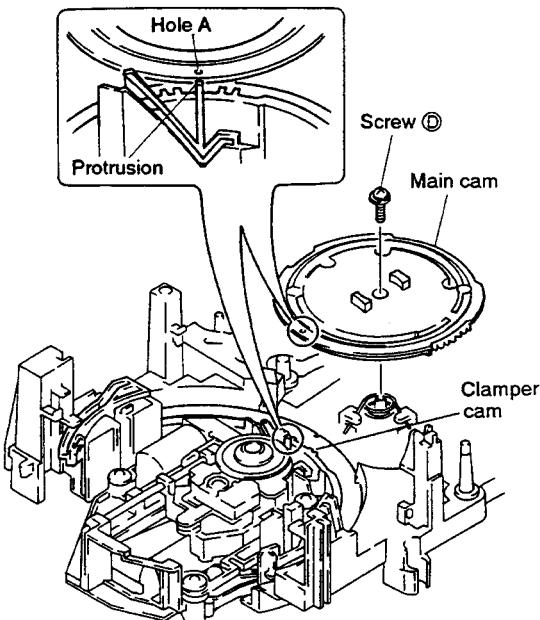

Fig. 2-3
(1) As shown in Fig. 2-3, attach the main cam, trying to adjust the main cam hole A to the clamper cam protrusion. Next, hold it with screw ①.